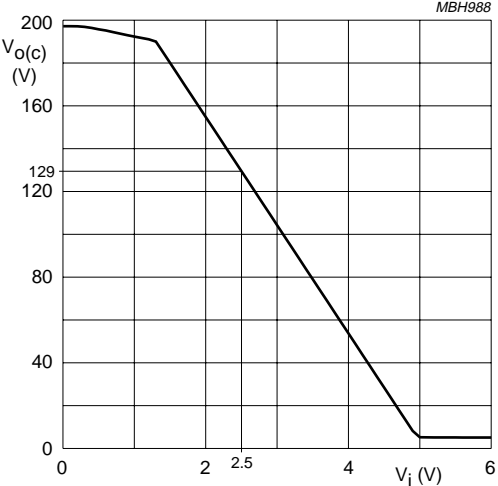

Fig.5 Typical DC-to-DC transfer of  $V_i$  to  $V_{oc}$ .
1. See also Fig.5 for the typical DC-to-DC transfer of  $V_i$  to  $V_{O(oc)}$ .